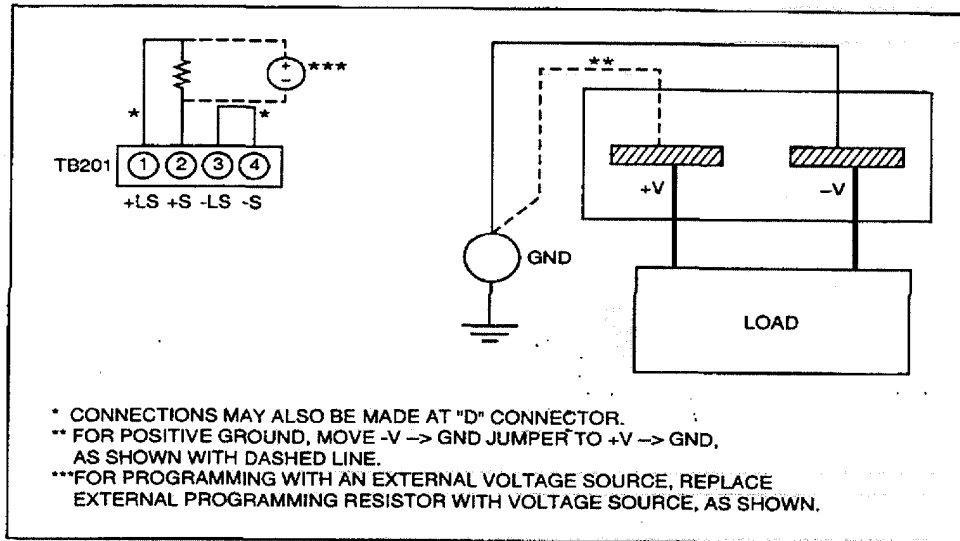

FIGURE 4: REMOTE VOLTAGE CONTROL WITH AN EXTERNAL PROGRAMMING RESISTOR OR VOLTAGE SOURCE (LOCAL SENSING)
Remote Voltage Programming via external resistor,	1000 ohms per volt for resistor connected between pins 1 and 2 on TB201 (see Figs. 4 and 5).
Remote Voltage Programming via external voltage source,	Volt per volt for voltage source connected between pins 1 and 2 on TB201 (see Figs. 4 and 5).
2. With the power supply unloaded, set  $V_o$  to the OV threshold desired. This may require remote programming (see Figs. 4 and 5).